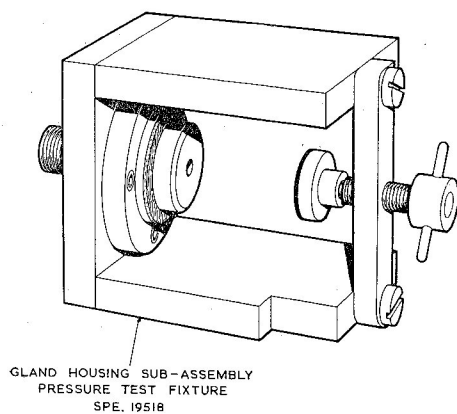

Fig. 21. Gland housing sub-assembly pressure test fixture
- (3) Using the fixture illustrated in fig. 21, pressure test the gland housing assembly, by immersing the assembly in water and applying air pressure at 20 lb/in² to the fixture adapter. Observe for air bubbles indicating leakage between the bellows gland and the housing; there must be no leakage.
- (4) Fit a new paper gasket (154) over the end of the bellows gland and secure the sleeve (202) to the housing with three self-tapping screws (153). ▶
- (5) After the pressure test, remove excess water, using a jet of dry compressed air, then complete the drying of the assembly in a ventilated oven.